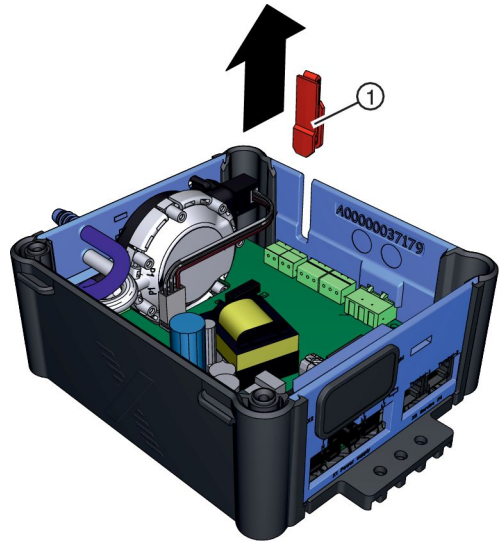

Fig. 16: Removing the cover plate
2. ▶ Remove the cover plate (Fig. 16/1).